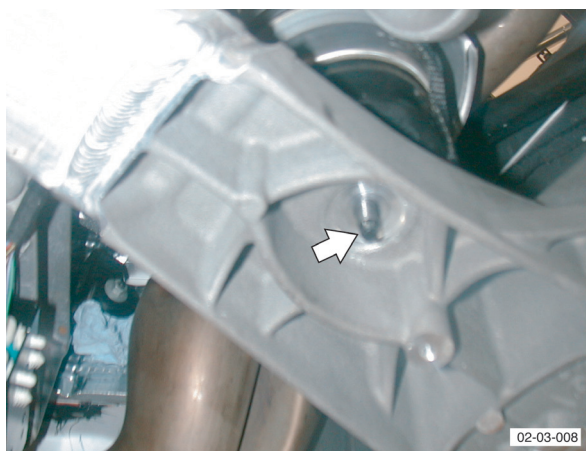

Fig. 3
26. Remove engine mounting nuts (x2) (see Fig 3).